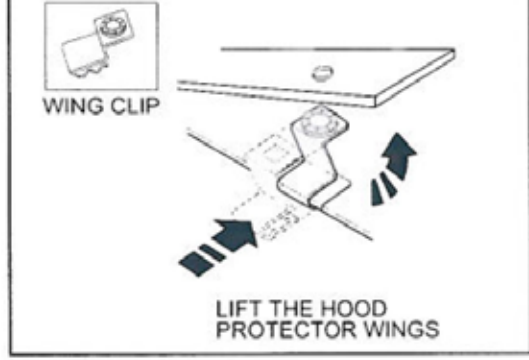

Figure 13.
13. Lift the Hood Protector and slide the wing clips over the hood edge at the noted wing clip positions, as shown in figure 13.